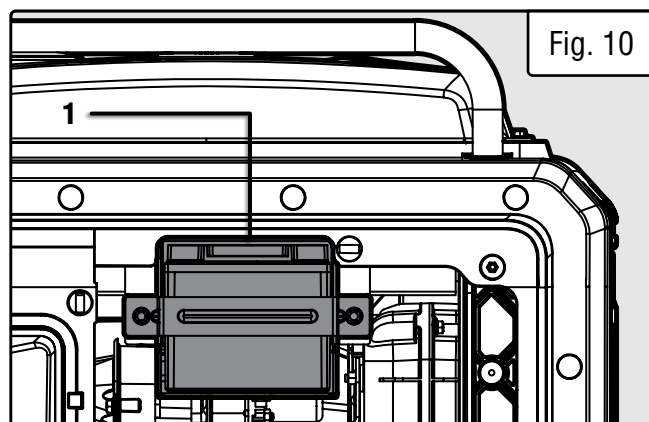

Fig. 10
1. Remove the right side panel and locate the battery (Fig. 10 - 1). Remove the rubber quick-connector covers.